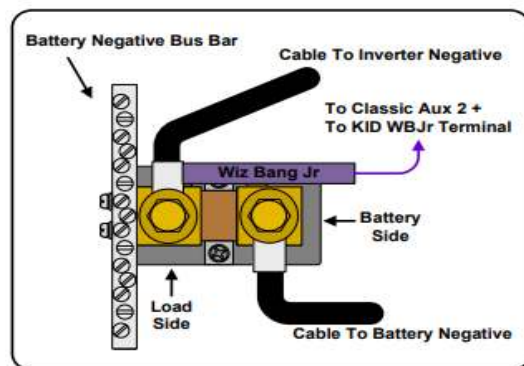

Figure 16
The WBJr is mounted on the side of a shunt. The shunt is wired in series on the electric low side, or negative side, of your system. See **Figure 16**. The wire marked "Cable to Inverter Negative" shows the shunt connection point for **ALL** negative wires from charge controllers, inverter, wind turbine negative, and even a battery charger running off a generator. All negatives land there. The other shunt bolt connection is the single cable from the shunt to the battery bank's master negative terminal.
2. Referencing **Figure 16**: